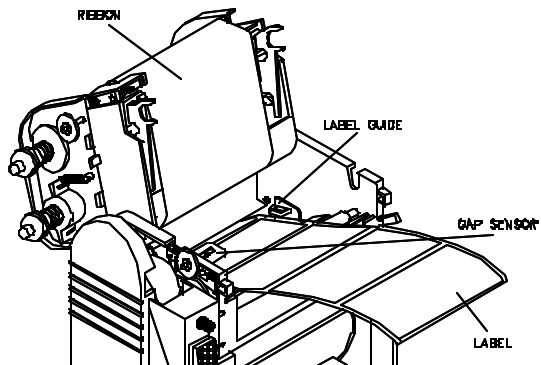

Fig. 2.3.2
6. Adjust the label guide to close to the roll's edge (see figure 2.3.2).
6. Turn over the assembly. Pass the front edge of the label roll through beneath the gap sensor (see figure 2.3.2).
6. Adjust the label guide (part 26) to fit in the label's edge (see figure 2.3.2).